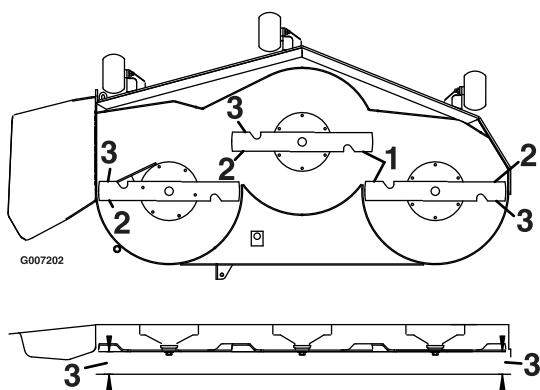

Figure 39
5. Measure between the outside cutting edges and the flat surface (Figure 39). If both measurements are not within 3/16 inch (5 mm), an adjustment is required; continue with this procedure.
9. Carefully rotate the blades side to side (Figure 39).
10. Loosen the leveling adjust locking nuts (item 4) on all four corners so that the deck is sitting securely on all four blocks. Make sure that the deck hangers are all the way down (at the top of the slot) and the deck lift foot lever is pushed back against the stop, then tighten the four leveling adjust locking nuts